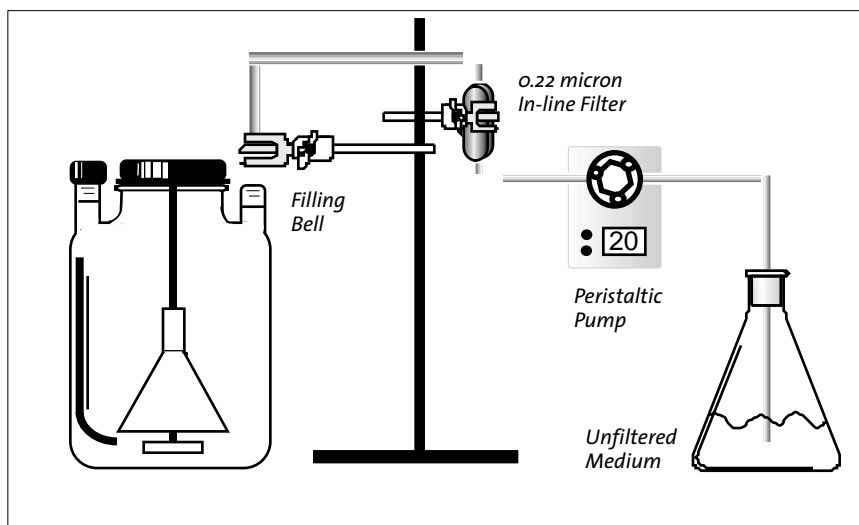

Figure 30. Large vessel being filled with the use of a filling bell and ring stand
3. “In-line” addition is an alternative. Unsterilized medium can be added by filtering “in-line,” using a length of sterilized tubing connected to a 0.2 micron filter attached between the unsterilized medium source and the vessel. Either gravity-feed or a peristaltic pump can be used to move the fluid. By using a filling bell supported by a ring stand as shown in Fig. 30, several vessels can be rapidly filled.
2. With larger flasks, medium addition is usually done via the sidearms rather than the center neck. Again, the use of a filling bell supported by a ring stand as shown in Fig. 30 greatly simplifies this operation.